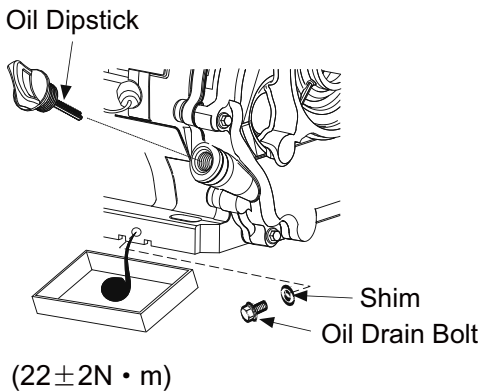

Figure 8: Place oil pan under oil fill/drain plug
7. Select the proper engine oil as specified in Figure 8.